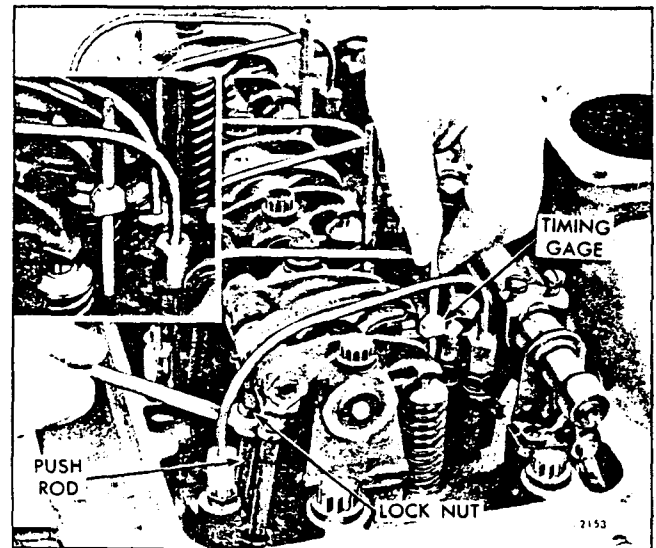

Fig. 3 - Timing Fuel Injector
3. Place the small end of the injector timing gage in the hole provided in the top of the injector body with the flat of the gage toward the injector follower (Fig. 3). Refer to Tables 1 and 2 for the correct timing gage.